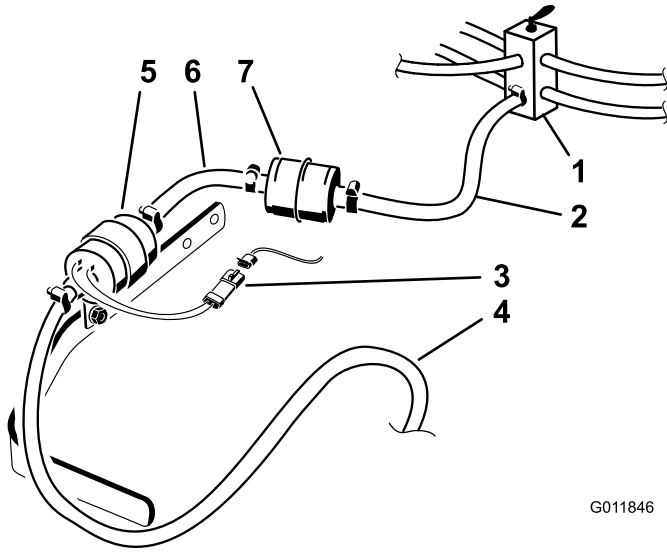

Figure 4
7. Remove the fuel hose from the fuel selector valve to fuel filter (Figure 4).
8. Remove the fuel hose from the fuel filter to the fuel pump (Figure 4).
9. Remove the fuel hose from the fuel pump to the engine (Figure 4).
Remember this connection because the new wire harness will connect here (Figure 4).
11. Remove fuel pump and set aside for installation later (Figure 4).